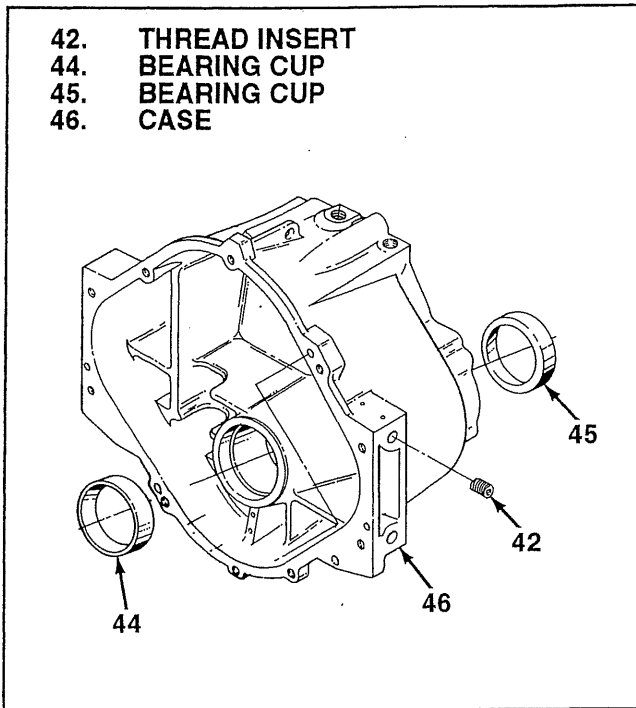

Figure 3-6. Case Assembly
**3-12. DISASSEMBLY OF CASE ASSEMBLY.** Remove parts from case assembly only if replacement is required. Then, as required, proceed as follows (see figure 3-6):
1. Remove thread inserts (42) using standard Heli-Coil (R) removal tools only if damaged.
2. Press or drive bearing cups (44 and 45) from transmission case (46) using care not to damage case.
3. Case cover and magnet assembly (14) and case (46) are a matched set. See listing in Section P.